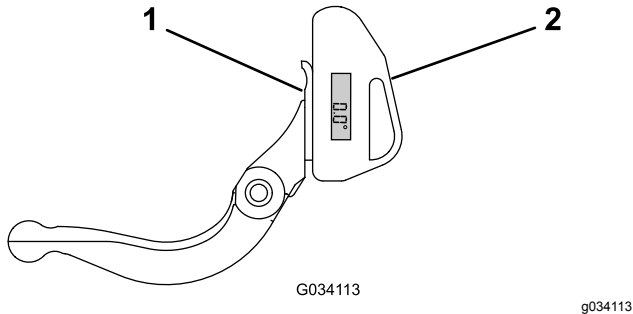

Figure 34
1. Place the angle indicator on the bottom side of the bedknife as shown in Figure 34.